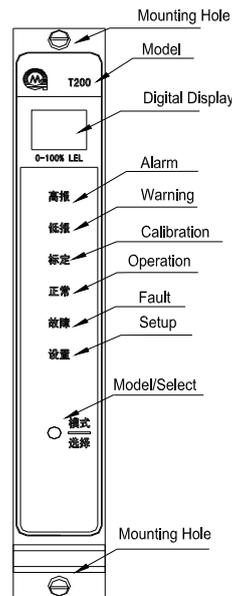

Figure 1: Front Panel of T200 Control Card
3.1.1 Function of the front panel of control card (see figure 1 front panel of T200 control card).